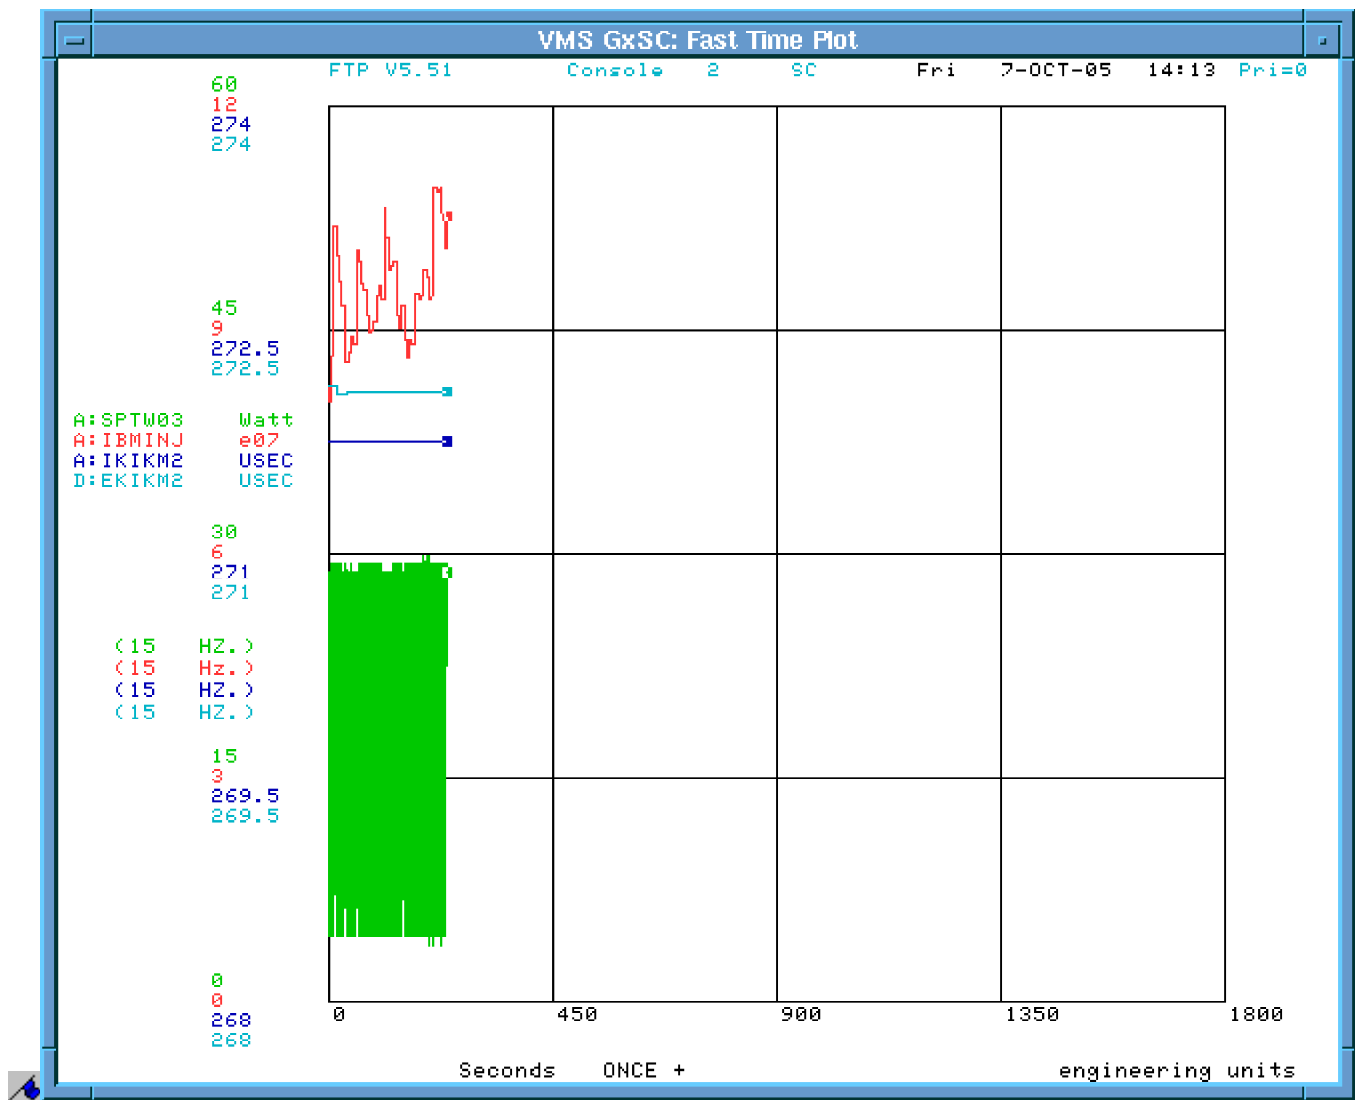

Figure 24:
2. Pbar FTP 104 (see Figure 24) shows one Debuncher Extraction kicker module timer (D:EKIKM1), one Accumulator Injection kicker module timer (A:IKIKM1), the amount of beam injected in the accumulator (A:IBMINJ) in units of  $1 \times 10^7$  as calculated from the stacking monitor, and the power in one of the stacktail TWTs (A:SPTW03). If our tuning efforts increase the beam to the Accumulator, then value of injected accumulator beam and stacktail power should both increase.